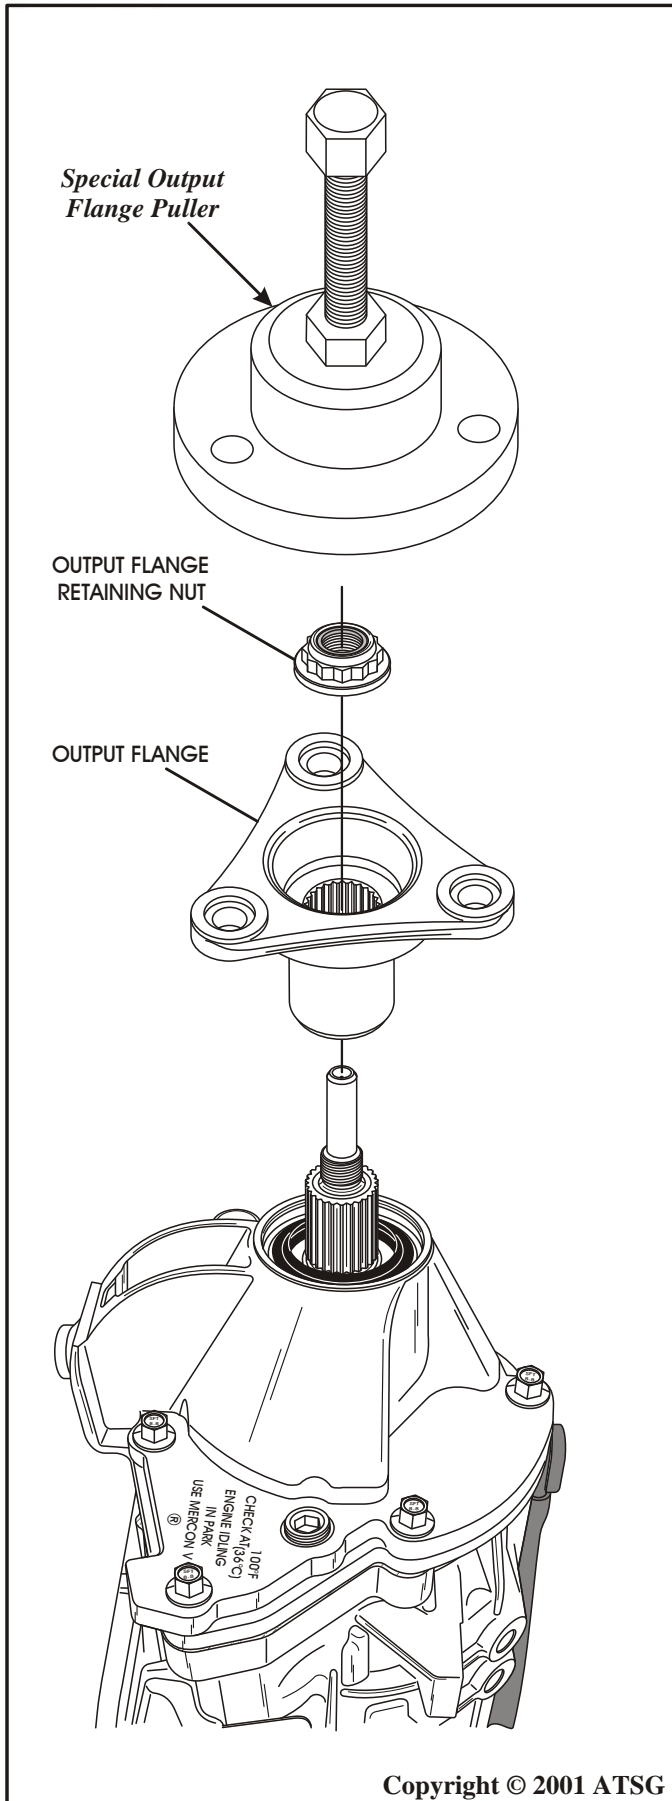

Figure 24
7. Install the transmission into the bench fixture and rotate, so that extension housing is facing up, as shown in Figure 24.
8. Remove and discard the output flange retaining nut, as shown in Figure 24.
9. Using an appropriate puller, remove the output flange, as shown in Figure 24.